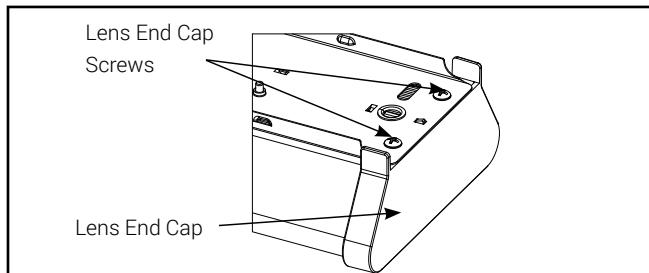

Figure 3.
3. Remove the lens end plate from only one end of the cover (Figure 3).